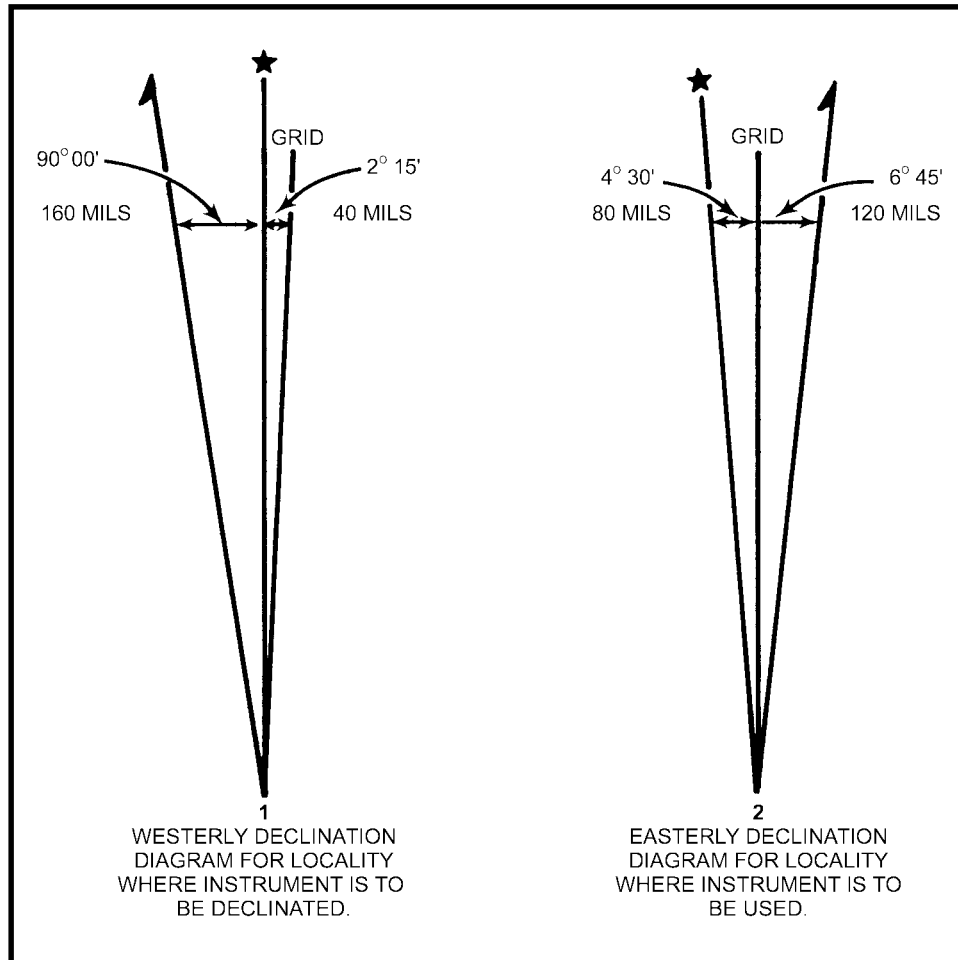

Figure 2-7. Marginal data from a map.
c. **Use of the Grid-Magnetic Angle.** If an aiming circle is used in a new area without a declination station, a declination constant can be determined by using the grid-magnetic (GM) angle from a map. When the GM angle (converted to mils) is westerly, it is subtracted from 6400 mils. The remainder is the declination constant. When the GM angle is easterly, the angle (in mils) is the declination constant.
(1) Determine the GM angle from the map of the area in which the aiming circle is to be used. This GM angle is used as indicated below.
(2) In 1, Figure 2-7, the difference between grid north and magnetic north is 200 mils (westerly). This total is then subtracted from 6400 mils. The declination constant that can be used is 6200 mils.
(3) In 2, Figure 2-7, the difference between grid north and magnetic north in a clockwise direction is 120 mils. This can be used as the declination constant.